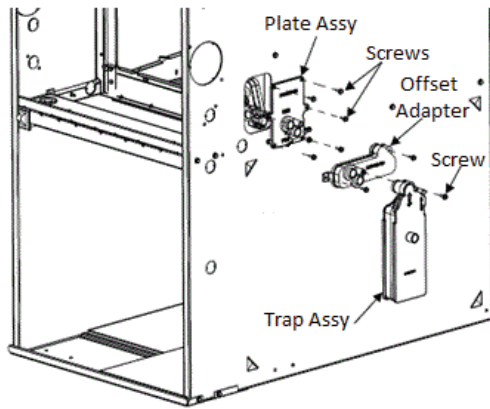

Fig. 16 – Upflow - Offset of Condensate Drain
1. Trap Offset Adapter Accessory Kit (purchased separately) is required. Instead of installing the trap to the adapter plate, screw the trap offset adapter to the adapter plate, see Fig. 16.
2. Screw the trap to the trap offset adapter, see Fig. 16.
3. Screw the trap adapter plate to the casing using the supplied sheet metal screw, see Fig. 16.